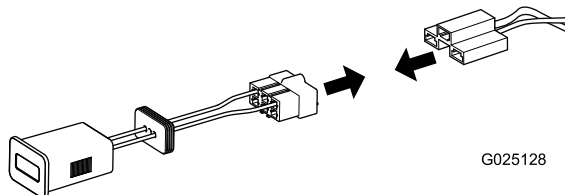

Figure 10
8. Insert the connector of the wireless-hour-meter wiring harness into the connector of the hour meter (Figure 10).